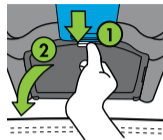

Figure 34
Open UAS Bin Door by pressing and holding top of Lock Tab (1) then rotating UAS Bin Door down (2), as shown in **Figure 34**.